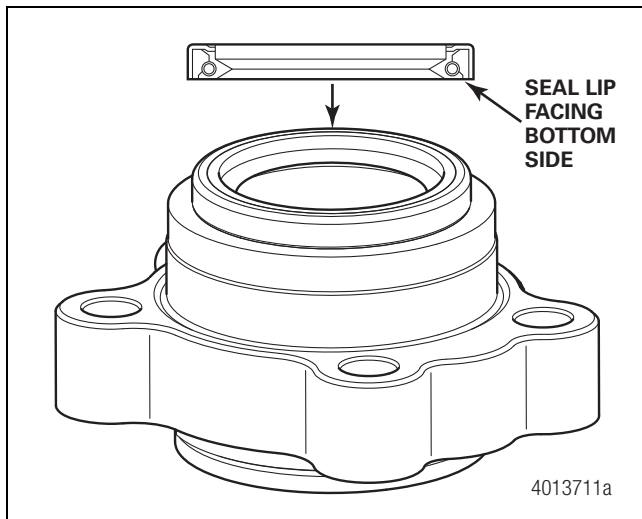

Figure 11.47
11. Place a new seal on the cam-head side of the housing with the seal lip facing in towards the bushing. Figure 11.47.